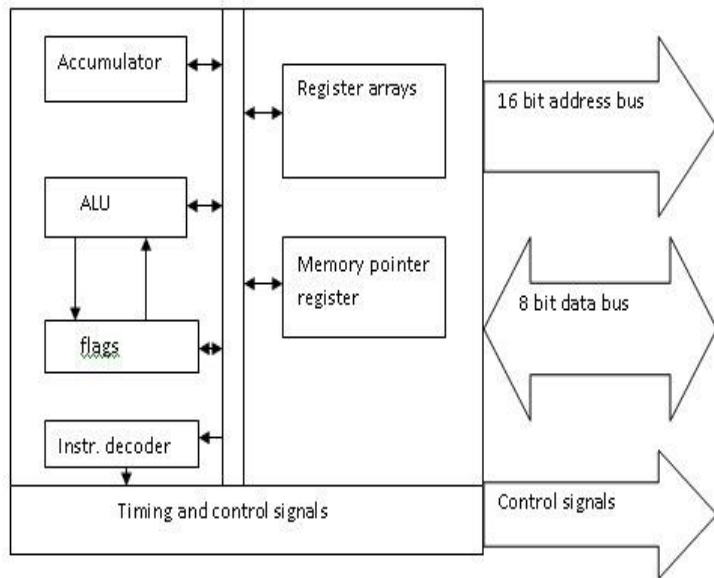

Fig. 1 8085 Hardware Model
- Fig 1 Shows the hardware model of 8085. it contains two major segment. One segment includes arithmetic / logic unit (ALU) , accumulator , flag register and instruction decoder.